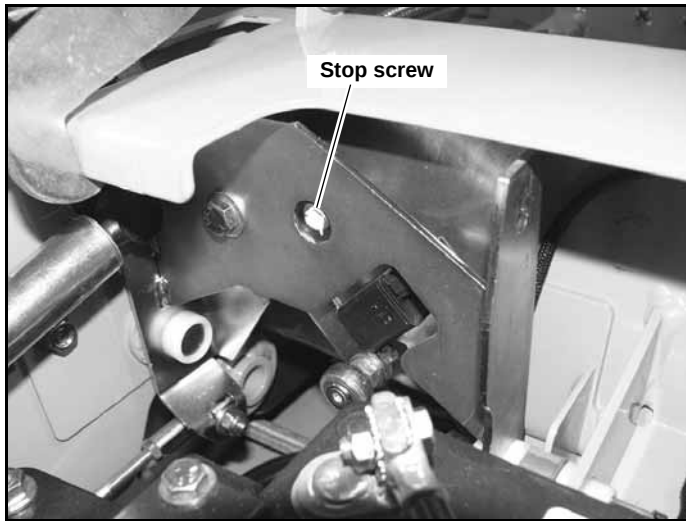
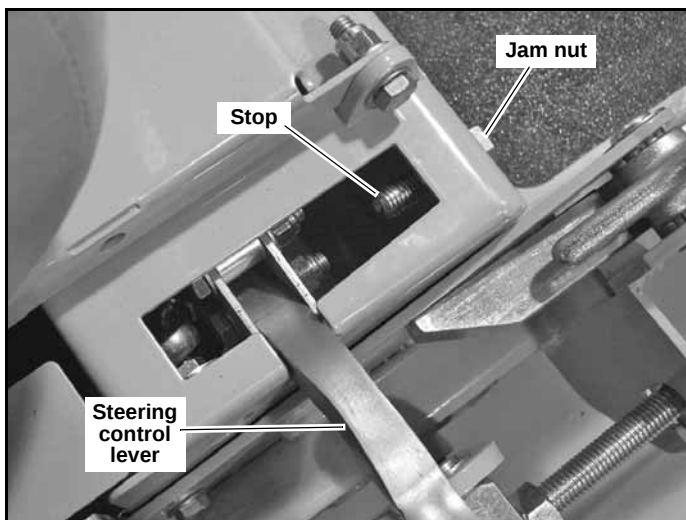

Figure 5-4
Figure 5-5
The internal steering control lever stops (see Figure 5-4) are designed to keep the pumps from bottoming out internally. The external steering control lever stops (Figure 5-5) may be adjusted to help the mower drive straight when the steering control levers are pushed forward against the stops.
1. Determine which drive tire is rotating too fast when both steering control levers are against the stops in the control panel (see Figure 5-5).